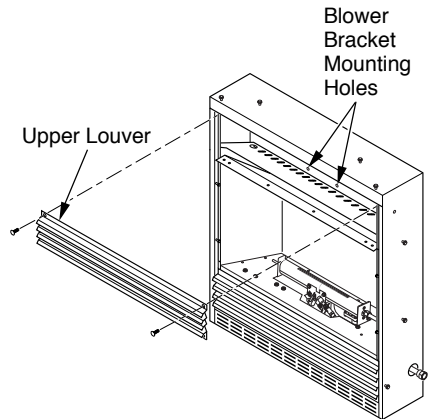
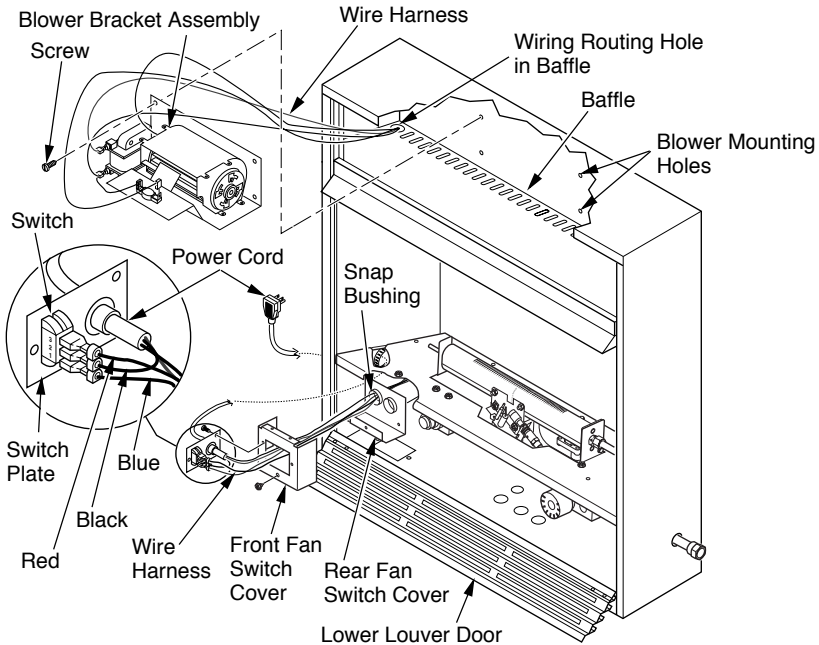

Figure 14 - Removing Upper Louver
Figure 15 - Installing Blower (Thermostat Unit Shown)
2. Remove 4 screws from upper louver (see Figure 14). Save these screws.
4. Open lower louver door by swinging door down (see Figure 15, page 15).
4. Note the wire locations on back of AUTO/OFF/ON switch. The terminals on back of switch are numbered 1, 2, and 3. Carefully remove red wire from terminal 3 and blue wire from terminal 1. Black wire can remain on middle terminal 2 (see Figure 15, page 15).
6. In top of the fireplace cabinet, locate the four mounting holes on the outer casing. Align these four holes with those on the blower bracket assembly. Attach blower bracket assembly to the outer casing with 4 #10 screws provided (see Figure 15).
7. Route the wire harness through the hole in left side of baffle. Pull wire harness through lower opening of firebox (see Figure 15).
8. Insert the 4 wire harnesses into one of the round holes in the rear of the fan switch cover and through the rectangular hole on front of the fan switch cover (see Figure 15).
- Route power cord out of the cabinet by inserting it through the bushing on the outer casing (see Figure 15, page 15). Plug fan kit into 120-Volt grounded power supply and test operation. *Note:* When switch is in the AUTO position, the fan will start after the fireplace has run for a few moments. The fan will continue to run for several moments after the fireplace has been turned off. When switch is in the ON position, the fan will run until turned to OFF. Reinstall upper louver (see Figure 14, page 14). Close lower louver door.
- Reinstall upper louver (see Figure 14, page 14) and close lower louver.